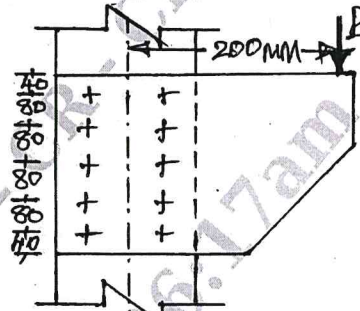

Fig.Q2(b)
- Determine the safe load 'P' carried by the joint shown in Fig.Q2(b). The thickness of the flange of I section is 9.1 mm and of bracket plate thickness is 10 mm. Use M20 bolts of grade 4.6.